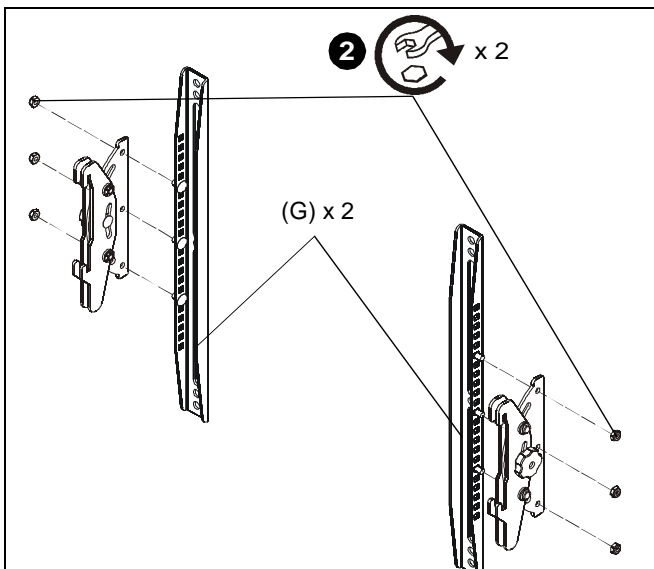

Figure 5
2. Replace short interface brackets with long interface brackets (G) and re-assemble brackets using hex nuts and screws. (See Figure 5)